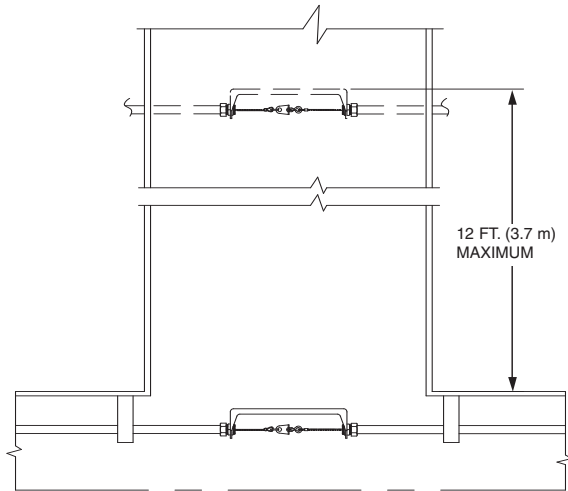

Figure 3-23.
Each exhaust duct must have at least one (1) detector installed in the duct entrance, located in the air stream of the cooking vapors at a maximum of 12 ft (3.7 m) into the duct. See **Figure 3-23**.